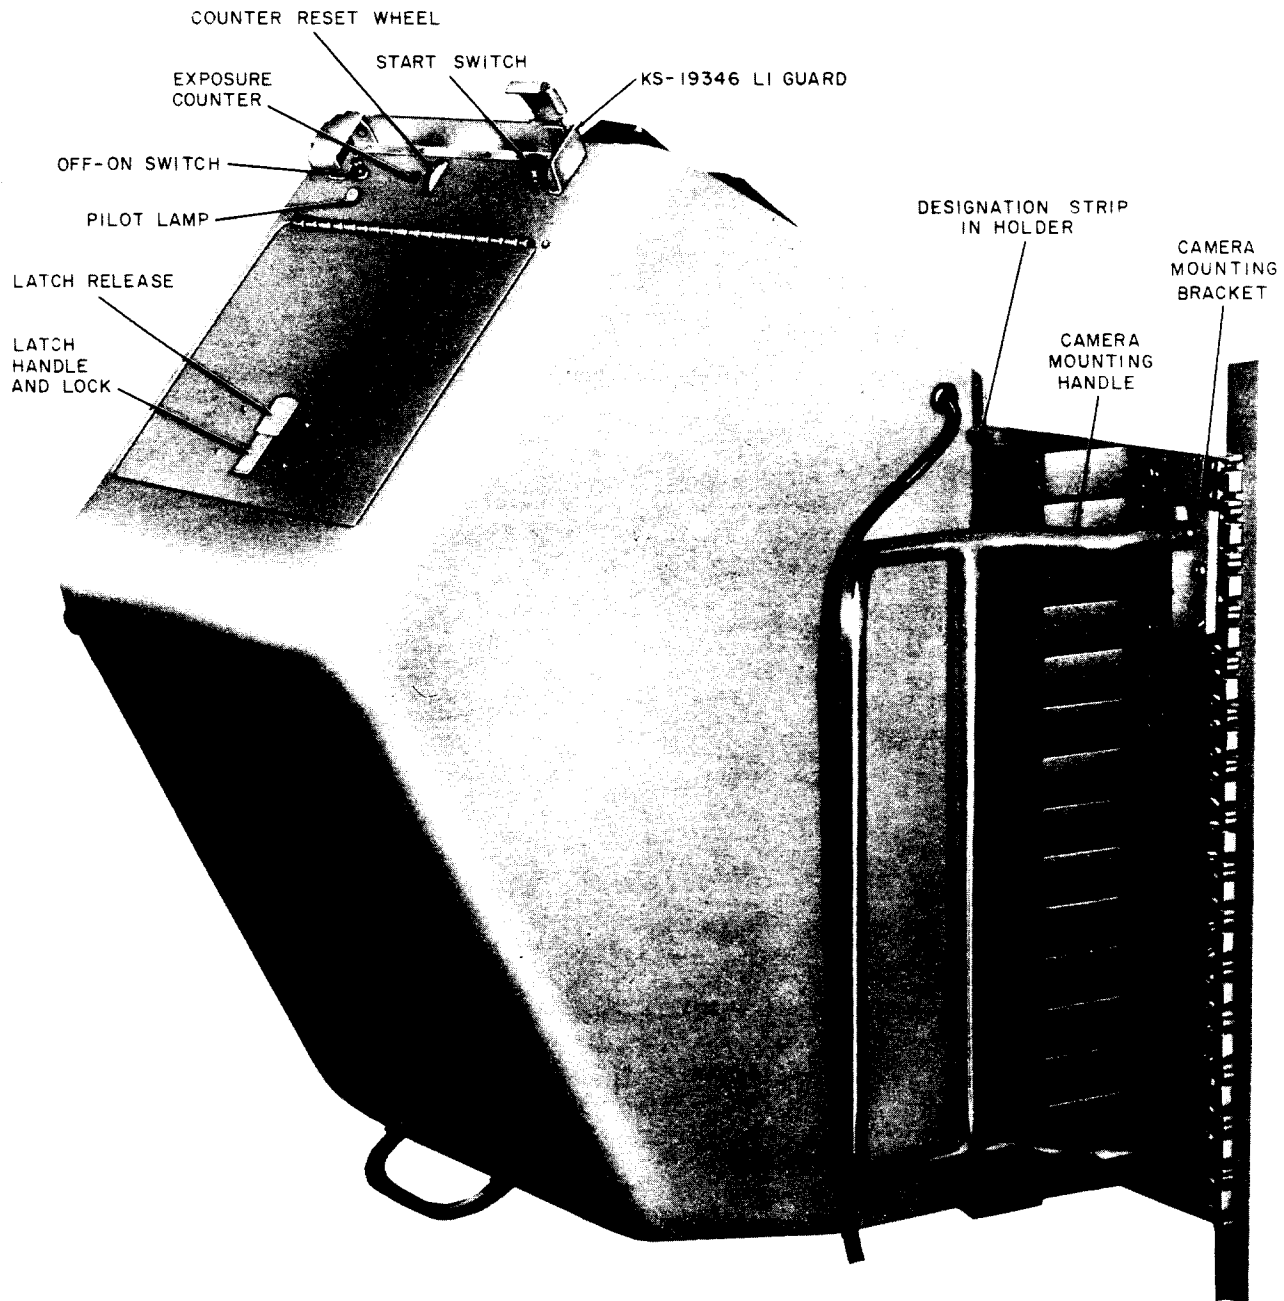

Fig. 1—KS-14776 Camera—Front View
Hood and Associated Apparatus—Fig. 1, 2, and 3
1.09 The hood of the KS-14776 camera is arranged for attachment to mounting brackets which are mounted on the traffic register frame. The hood is equipped with mounting handles, the legs of which engage the brackets on the frame as shown in Fig. 1. This arrangement permits the camera to be readily detached from the frame for loading, unloading, and maintenance.
(b) Check that the camera mounting brackets have been correctly mounted on the traffic register frame. Figure 1 shows the brackets mounted in the proper position with respect to the top row of registers to be photographed. The position shown is correct for both upper and lower cameras where two cameras are used.
4.05 Prepare the designation strip as covered in 7.01. Insert it in the holder at the right side of the hood (Fig. 1). If other identifying information is required, locate it as covered in 7.02.